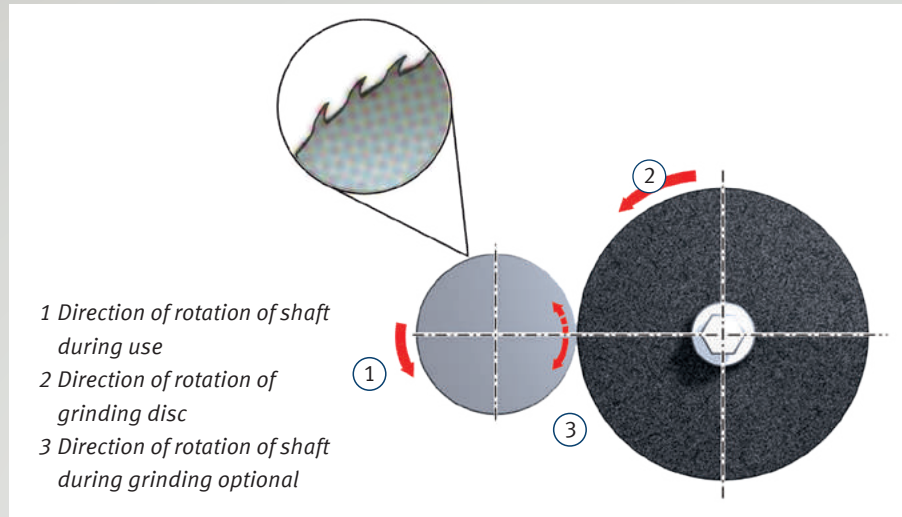

Fig. 43: Grinding a cast shaft
- Spheroidal graphite iron (GGG) has an open surface structure, and should therefore be ground to  $R_z 2$  or better. Fig. 43 shows the direction of rotation of cast shafts in use. This should be the same as the direction of rotation of the grinding disc, as more wear will occur in the opposite direction.